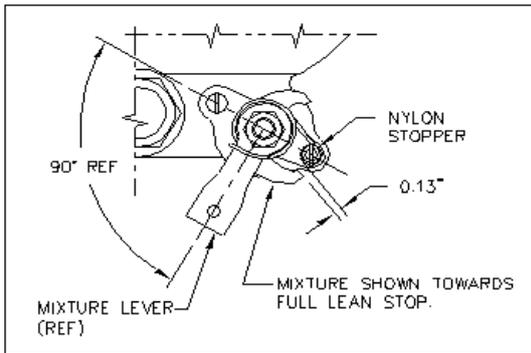

Figure 4: TC - Mixture Side
- b. Replace the spring with item 1 and increase its tension, as required.
- c. Reposition the mixture lever as shown in Figure 4 (TC) and Figure 5 (NA).